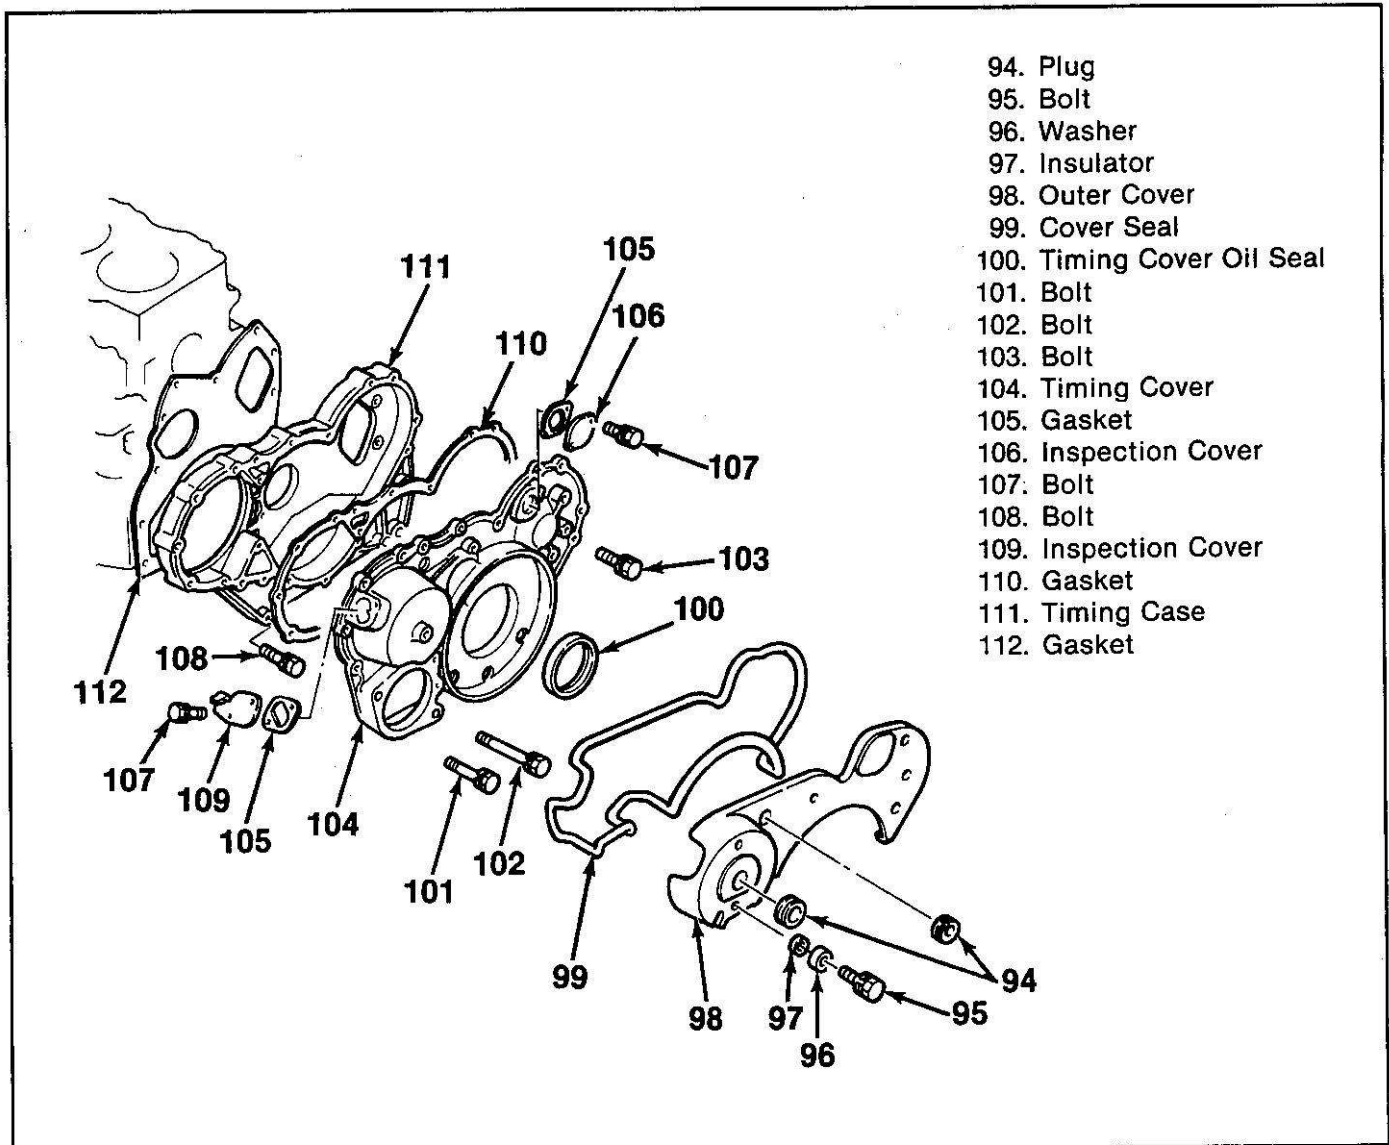

Figure 72. Timing Gear Housing, Case and Cover
- Oil seal mating surface (A) on the vibration damper shaft for roughness or grooving (figure 71). Replace the vibration damper (90) and timing cover oil seal (100) if this condition exists (figure 72).
Remove or Disconnect (Figure 72)
Clean (Figure 72)
Inspect (Figure 72)
Install or Connect (Figure 72)